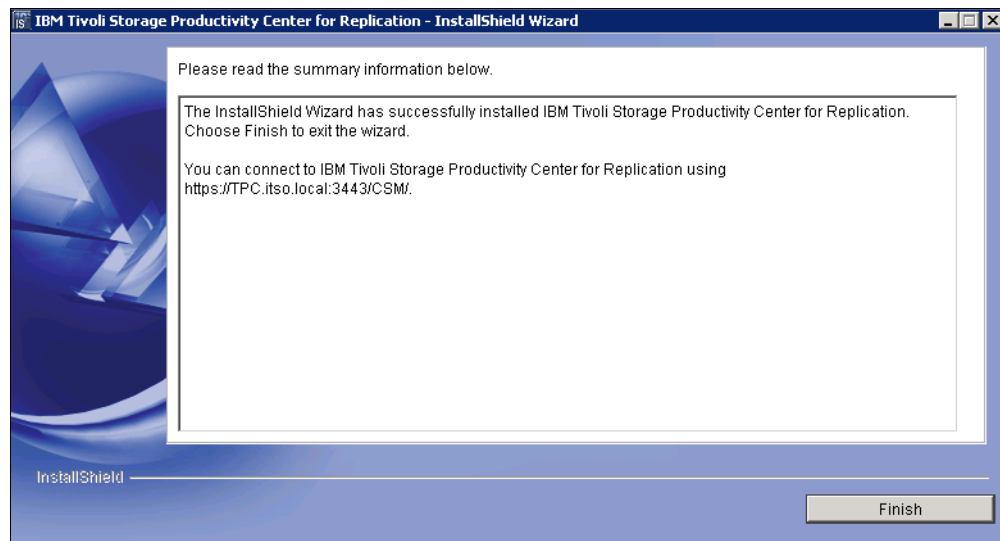

Figure 12-36 Tivoli Storage Productivity Center for Replication installation complete
15. After the installation completes, click **Finish** (Figure 12-36).